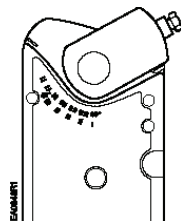

Figure 4.
- a. Insert the shaft adapter to the right as close as possible to the raised stop. See Figure 4.